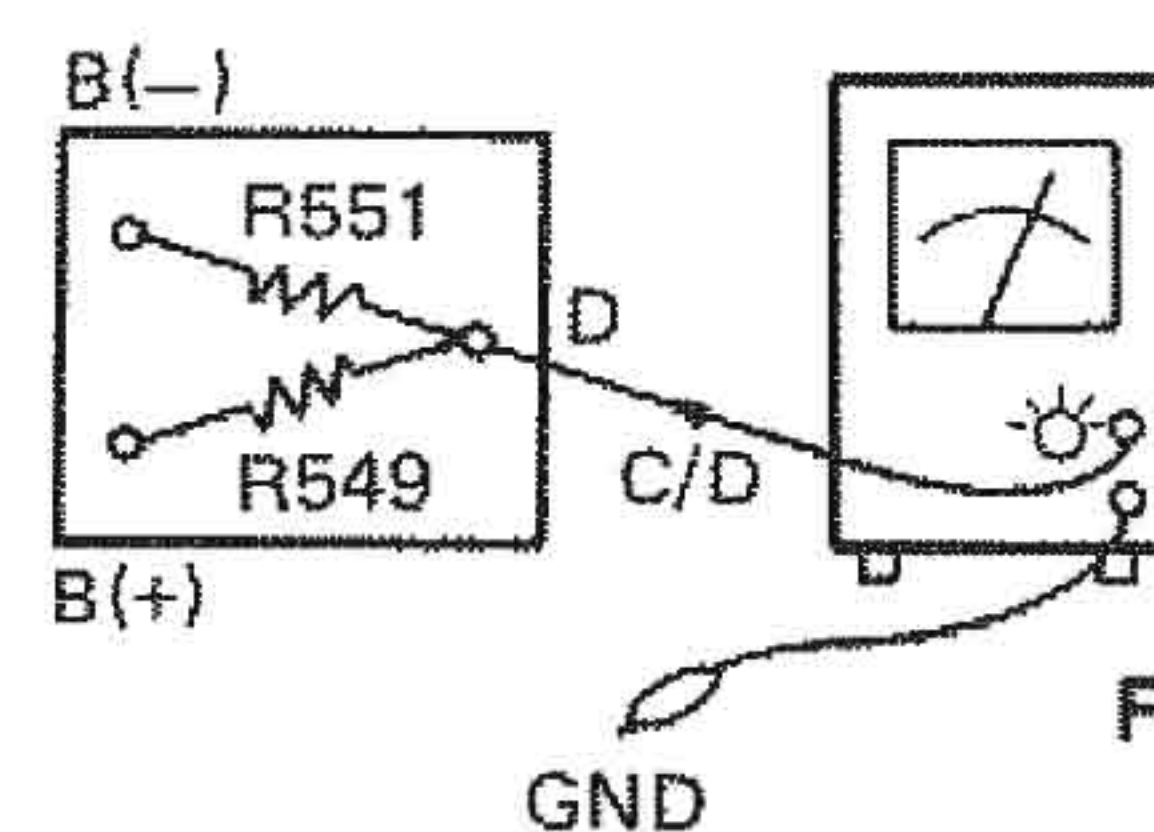

Figure 33.
1. Connect a tester to Point C. Figure 33.
3. Connect a tester to Point D. Figure 33.